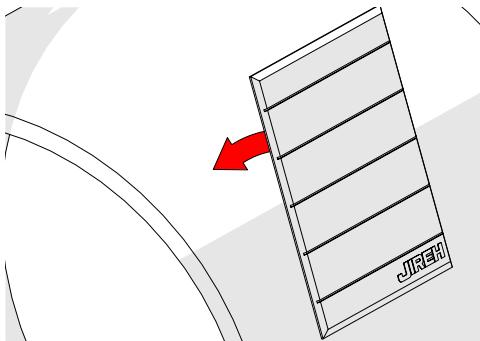

Fig. 45 - Place installation/removal mat
- Place the installation/removal mat (Fig. 28) on the inspection surface (Fig. 45).